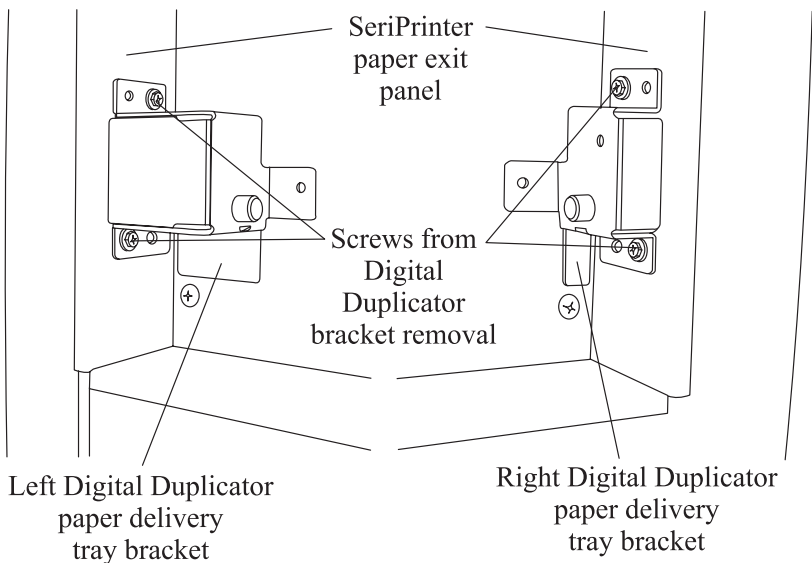

Figure 1
- 1.2. The SeriPrinter paper exit side has two fixed mounting points that are used to secure the paper delivery tray brackets and the paper delivery tray, removed from the Digital Duplicator. Secure the Digital Duplicator brackets. See Figure 1. Mount the Paper Delivery Tray and secure onto their brackets now on the SeriPrinter Exit Panel.